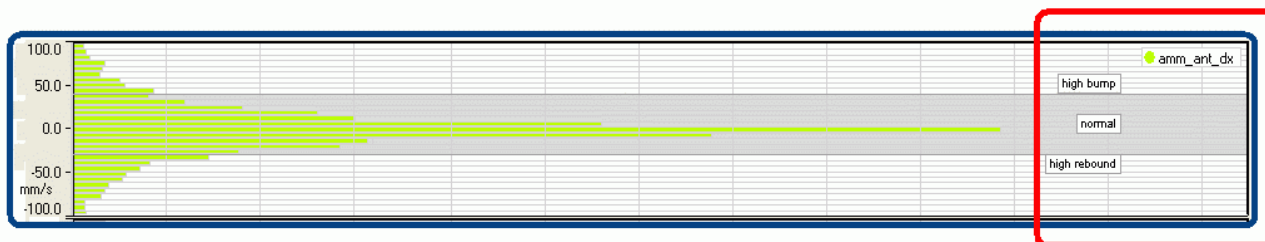

Figure 12a –Histogram.
- Bump and rebound **Low speeds** are included in the grey band and are labelled "Normal" in **Figure 12a** (green box of **Figure 12b**).